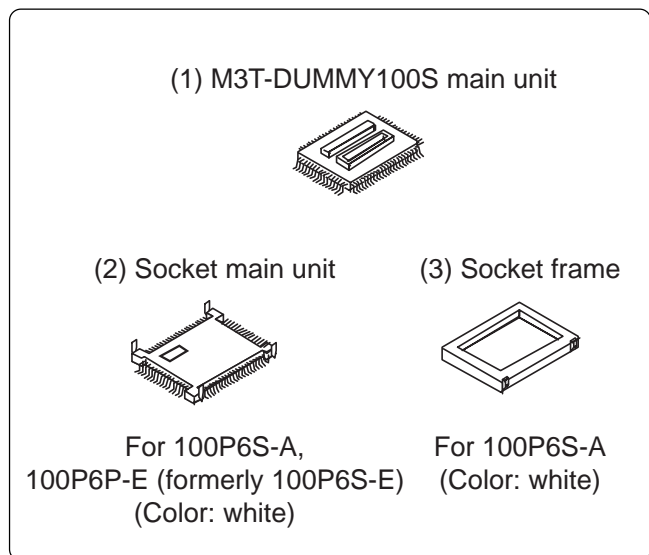

Figure 1 Package components of the M3T-DUMMY100S
2. Package Components (see Figure 1)